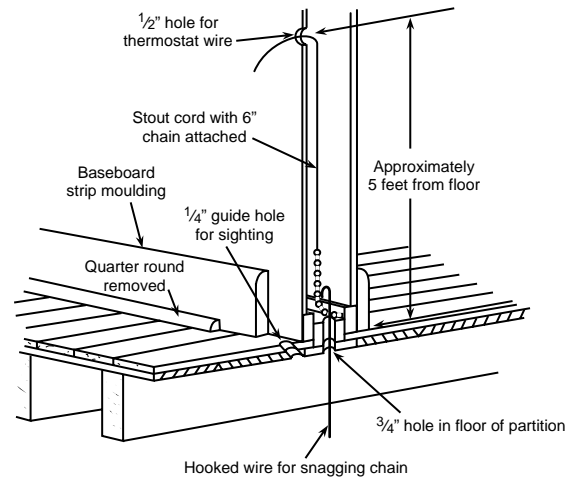

Figure 1. Routing thermostat wires
3. Probe for obstructions in partition before drilling $\frac{1}{2}$ " hole in wall at selected location. Take up quarter round and drill a small guide hole for sighting (see fig. 1). From basement, drill $\frac{3}{4}$ " hole in partition floor next to guide hole. In houses without basements, drill $\frac{1}{2}$ " hole through ceiling and into partition from above (see fig. 1).